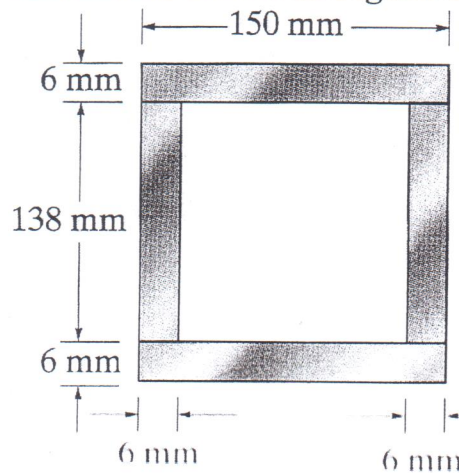

Figure 3.
- (5) A column is made of **A-36** steel ($E = 200 \text{ GPa}$, $I_X = 160 \times 10^6 \text{ mm}^4$ and $I_Y = 11.1 \times 10^6 \text{ mm}^4$) has a length of 6 m and is pinned at both ends. If the cross-sectional area has the dimensions shown in **Figure 3**, determine the critical load.
- (6) A column is made of **2014-T6** aluminum ($E = 73 \text{ GPa}$) has a length of 9 m and is fixed at its bottom and pinned at its top. If the cross-sectional area has the dimensions shown in **Figure 3**, determine the critical load.